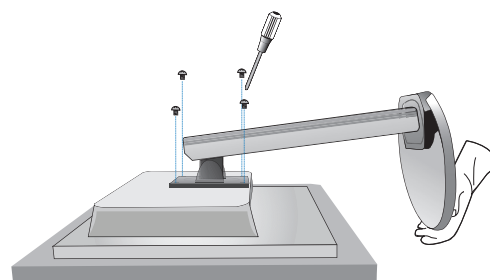

Figure S.1
3. Place the monitor face down on a non-abrasive surface (**Figure S.1**).
4. Remove the 4 screws connecting the stand to the monitor (**Figure S.1**).